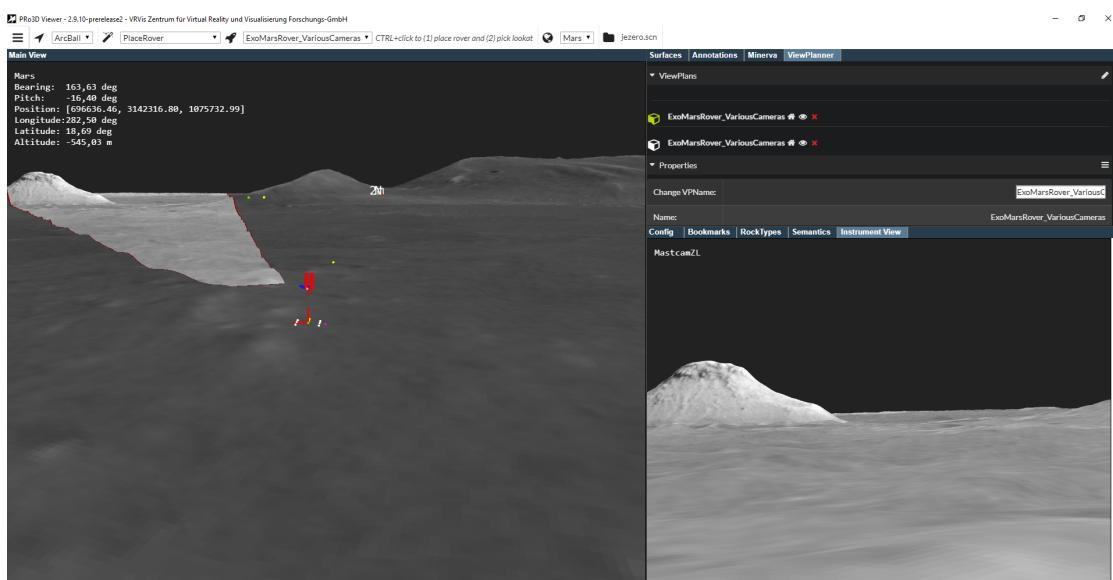

Figure 19: The instrument view (right) shows the instrument's camera view.
- export footprint: you get one screenshot from the main view, one from the instrument view (Figure 19) and a *.svx file with diverse meta information.